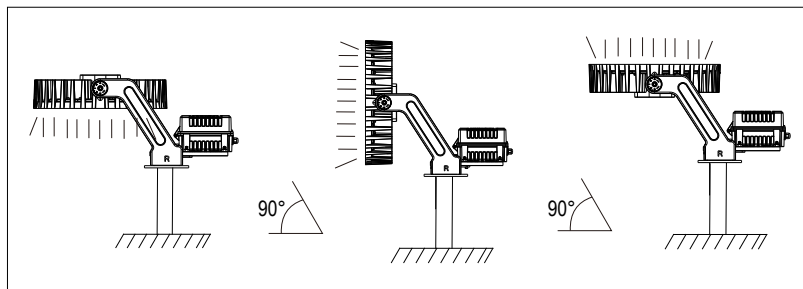

Figure 9
3. Adjust the projection angle within the specified range as required (Figure 9).